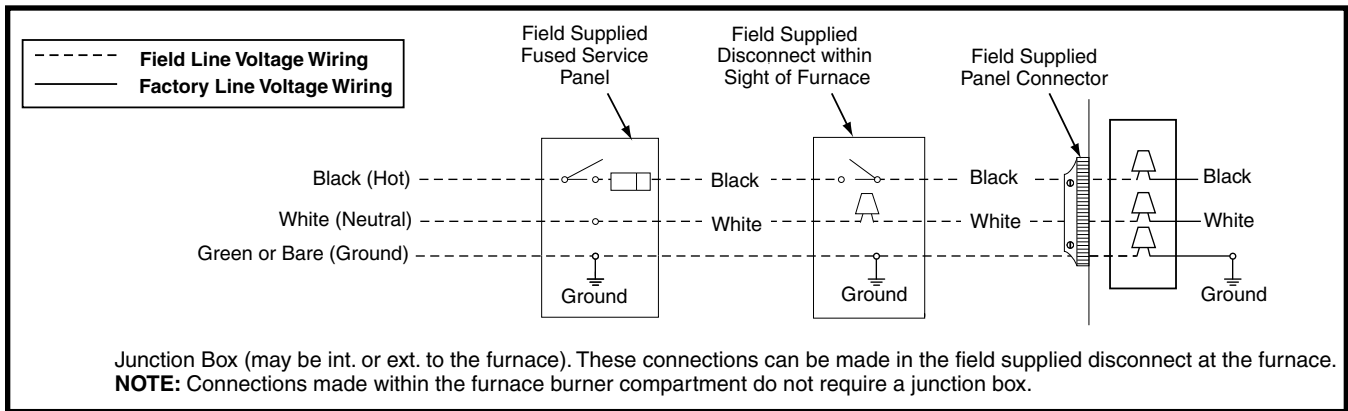
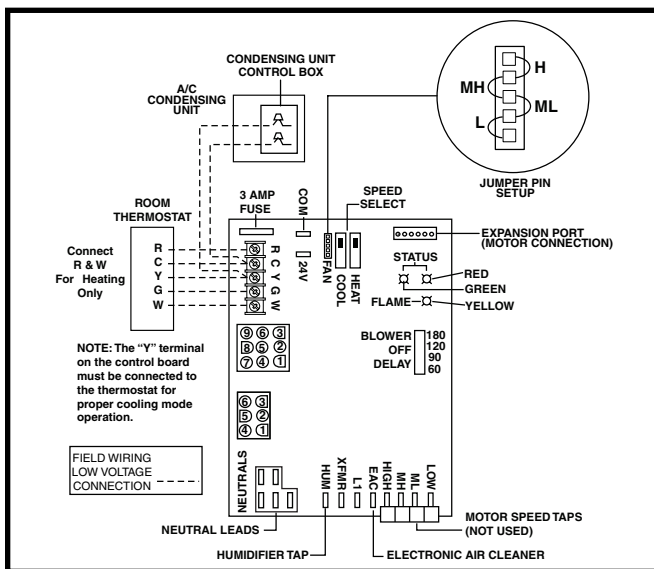

Figure 14. Line Voltage Field Wiring
Figure 15. Low Voltage Field, Four-wire Heating/Cooling Applications
- **An electrical disconnect must be installed readily accessible from and located within sight of the furnace. See Figure 14 or the wiring diagram label inside of the control door. Any other wiring methods must be acceptable to authority having jurisdiction.**
- **Proper line voltage polarity must be maintained in order for the control system to operate correctly. Verify the incoming neutral line is connected to the white wire and the incoming “hot” line is connected to the black wire. The furnace will not operate unless the polarity and ground are properly connected as shown in Figure 14.**
- The thermostat must be installed according to the instructions supplied by the thermostat manufacturer. Low voltage connections (24 VAC) from the thermostat are wired to the terminal strip on the integrated control in the furnace. Figure 15 contains the proper connections for heating only (two-wire) and heating/cooling (four-wire) applications. Recommended minimum wire gauge for thermostat wiring is shown in Table 2, \(page 18\).
- The six pin terminal marked “Expansion Port” (Figure 15) is not used in the single stage furnace as shipped from the factory. It is used for the furnace control board to communicate to a fixed speed or variable speed high efficiency motor that may be optionally installed. Please contact your distributor for the proper upgrade motor kit.
- ✓ Verify the jumper setting (for fan speed) on the control board. See Figure 15, \(page 18\).
The operating sequences for the heating, cooling, and fan modes are described below. Refer to the field and furnace wiring diagrams: Figure 14, \(page 18\), Figure 15, \(page 18\) and Figure 19, \(page 27\).
- When the thermostat energizes the **G** terminal for continuous fan (without calling for heat or cooling), the indoor fan is energized on the selected FAN speed. See Figure 15, \(page 18\).